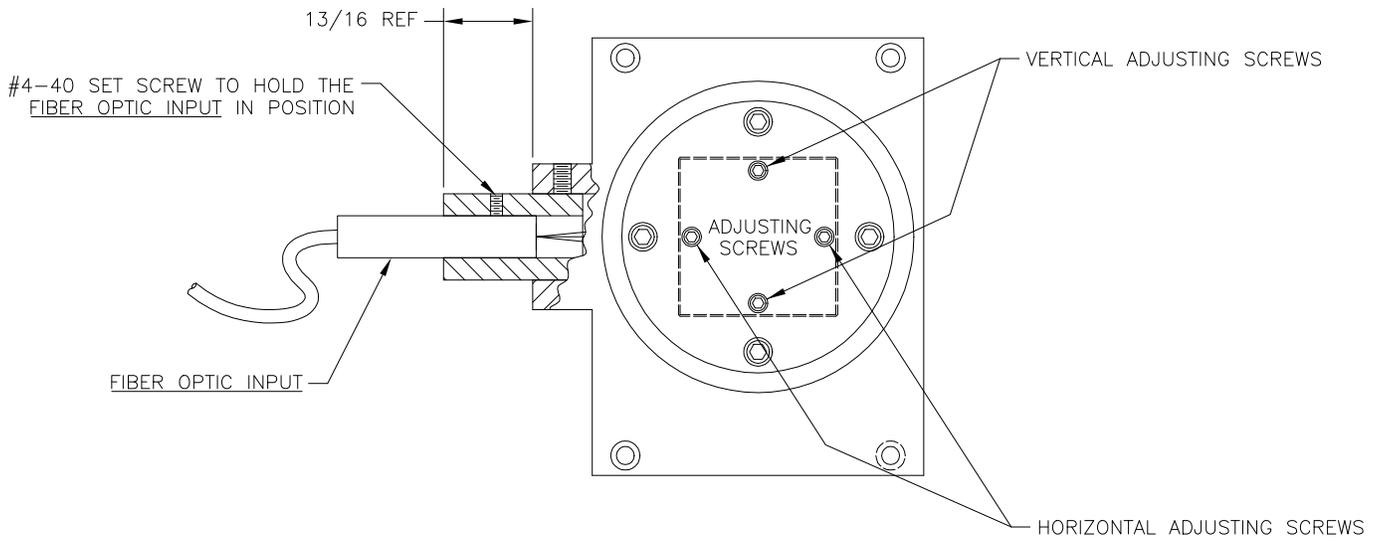

FIGURE 3
5. Carefully slide the Fiber Adapter back into the Entrance of the Imaging Fiber Coupler so that the end of the Fiber Adapter is located approximately 13/16" from the Entrance (See Figure 3).
8. All adjustments to the vertical or horizontal position of the fiber images on the CCD should only be made using the adjusting screws labeled on the housing of the Imaging Fiber Coupler (See Figure 3). **NOT OTHER MIRRORS SHOULD BE ADJUSTED.**
10. To align the fiber images vertically (up or down) on the entrance slit of the SpectraPro Spectrograph, alternately tighten and loosen the stainless steel Horizontal Adjusting Screws (See Figure 3). Note: If one screw is tightened, the other screw should be loosened by approximately the same amount.